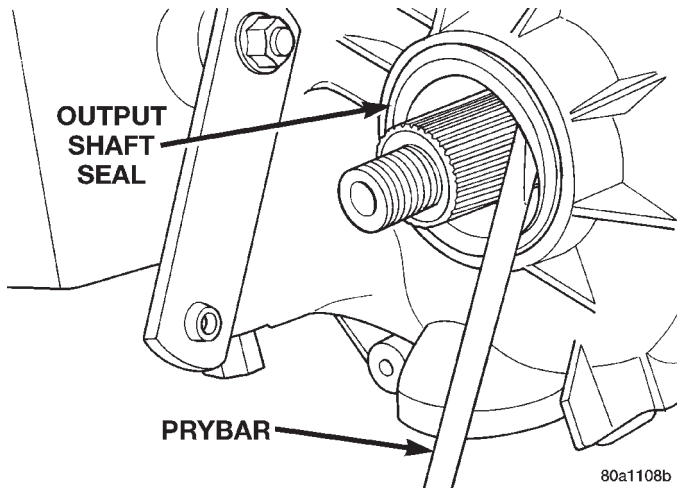

Fig. 5 Remove Front Output Shaft Seal
- (1) Raise vehicle.
- (2) Remove front propeller shaft. Refer to Group 3, Differential and Driveline, for proper procedure.
- (3) Remove front output shaft companion flange.
- (4) Remove seal from front case with pry tool (Fig. 5).